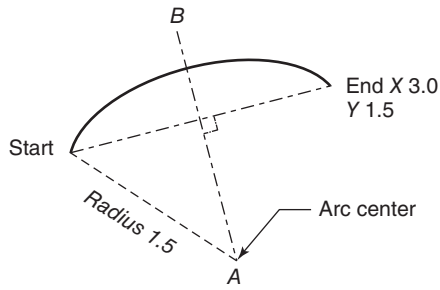

Figure 22-8 Given the *start* and *end* points, the control can derive that the center point lies along line *A-B*.
Or, given the arc's start and end points, the center point will lie on a line perpendicular to a line connecting them (Fig. 22-8). The control can derive the center point in this case if it's given the radius and direction, clockwise (CW) or counterclockwise (CCW).